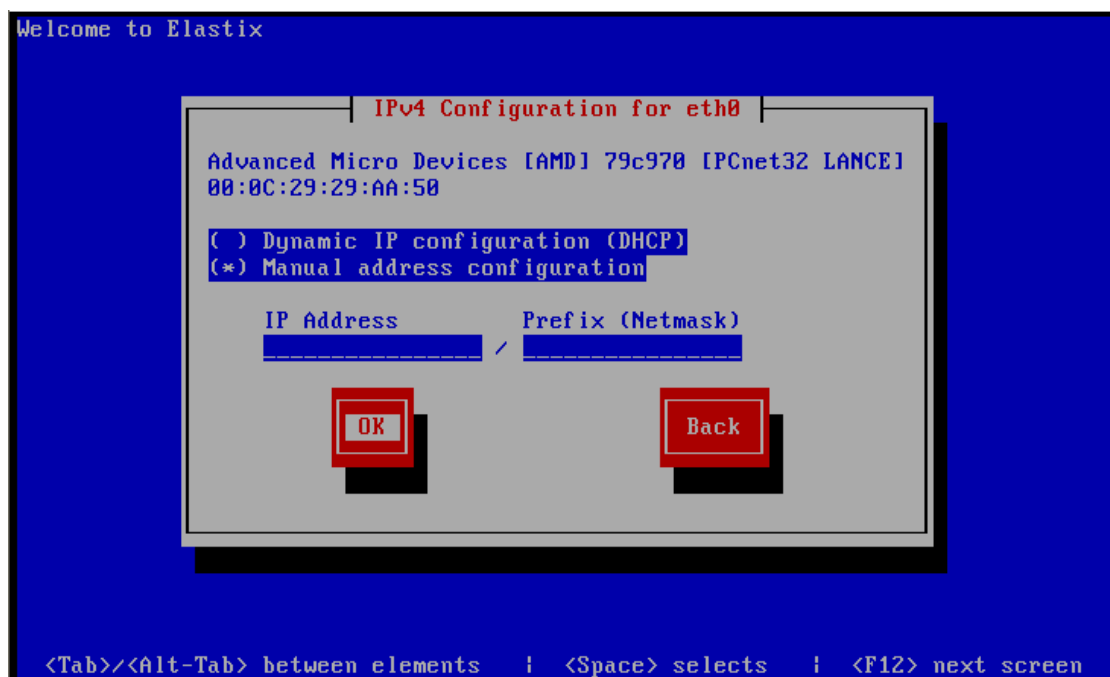

Figure 8
8. Next, choose to manually or dynamically configure IP address. Here we select 'Manual address configuration', enter the IP address and the subnet mask below, and then click 'OK' (Figure 8).